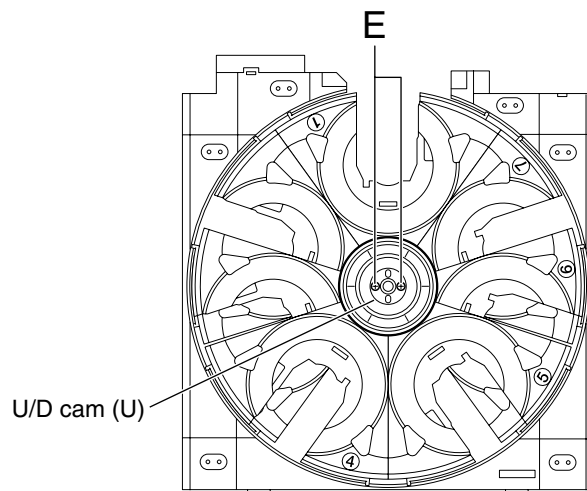

Fig.7
■ Removing the U/D cam (U) (See Fig.7)
1. Remove the two screws **E** attaching the U/D cam (U) on the upper side of the main tray assembly.